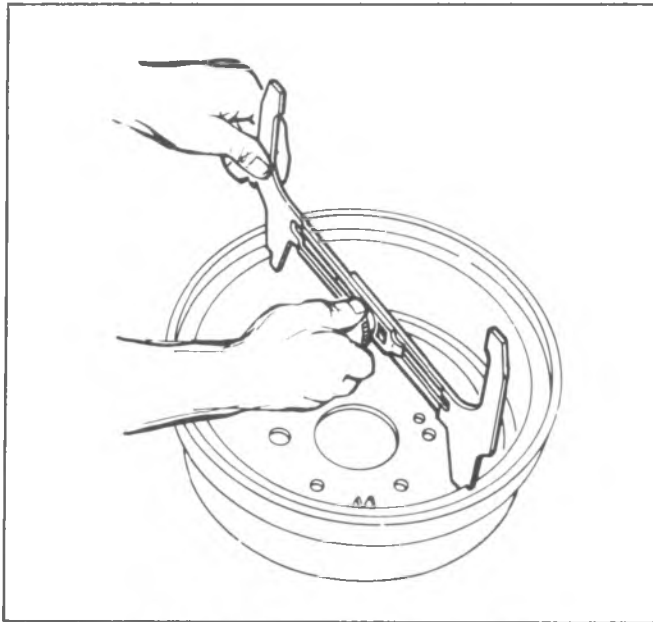
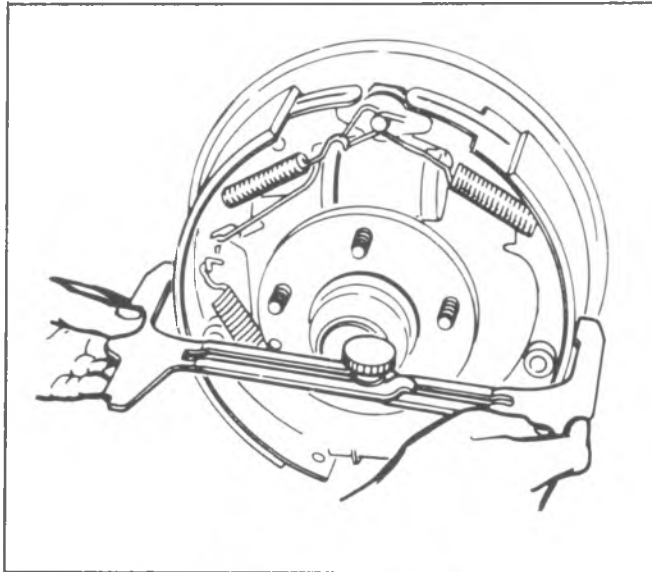

Fig. 5-44-Measuring Brake Drum I.D.
Fig. 5-45-Adjusting Brake Shoes
8. Measure brake drum I.D. using inside caliper portion of Tool J-21177 (fig. 5-44). Adjust brake shoes to dimension obtained on outside caliper portion of Tool J-21177 (fig. 5-45).
9. Measure brake drum I.D. using inside caliper portion of Tool J-21177. Adjust brake shoes to dimension obtained on outside caliper portion of Tool J-21177 (figs. 5-44 and 5-45).